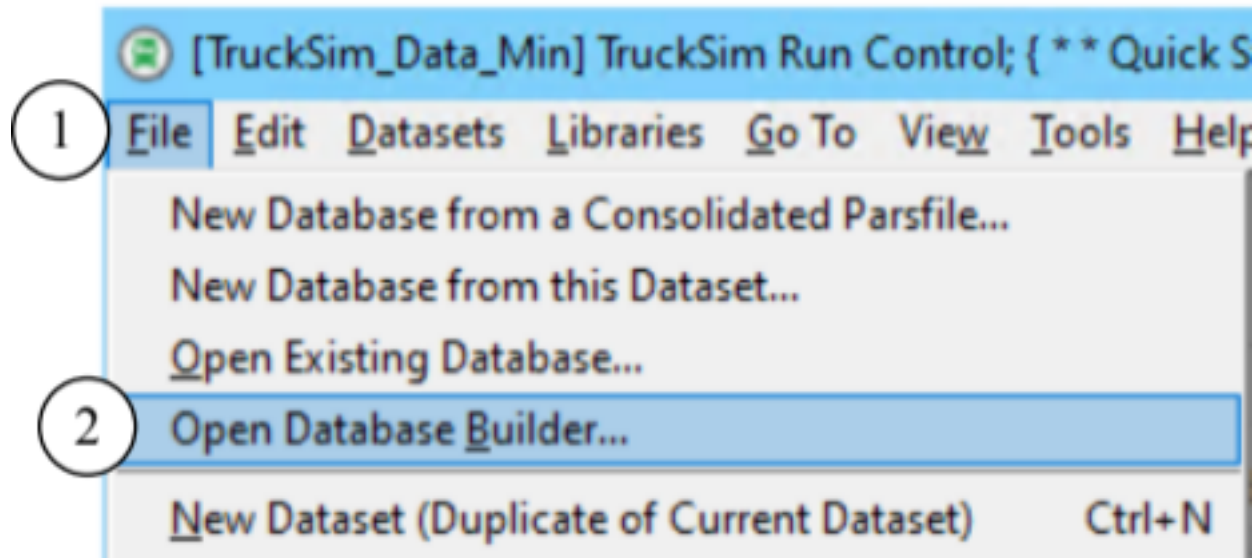

Figure 3. Use the File menu command Open Database Builder.
You can access the Database Builder any time after the initial installation of TruckSim. It can be viewed whenever the **Select Recent Database** window appears. The Database Builder can also be brought up directly from within TruckSim using the **File** menu ① command **Open Database Builder** ② (Figure 3).